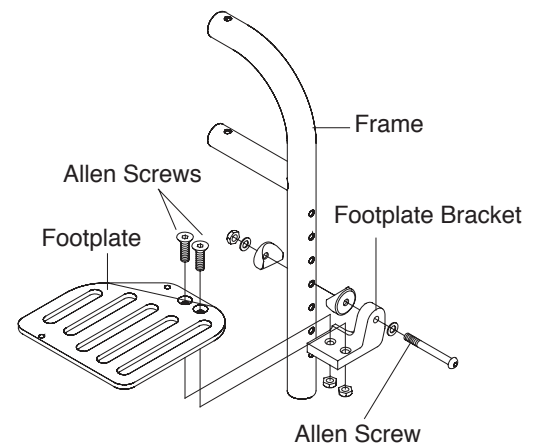

Figure 11
1. Remove the Allen Screw that secures the footplate bracket to the frame. See Figures 11 or 12. Make sure to note the order in which you remove the various washers and nuts when removing the Allen Screw.